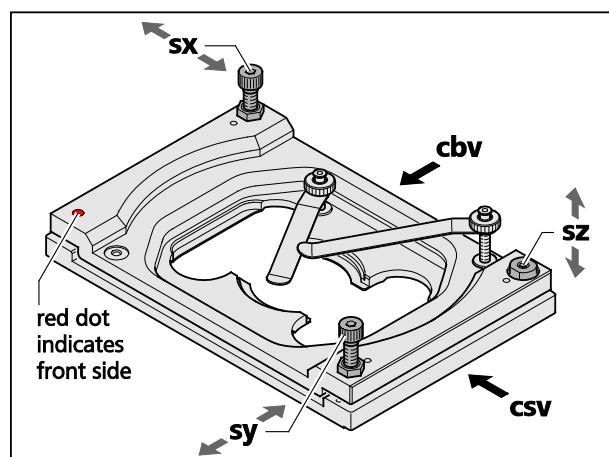
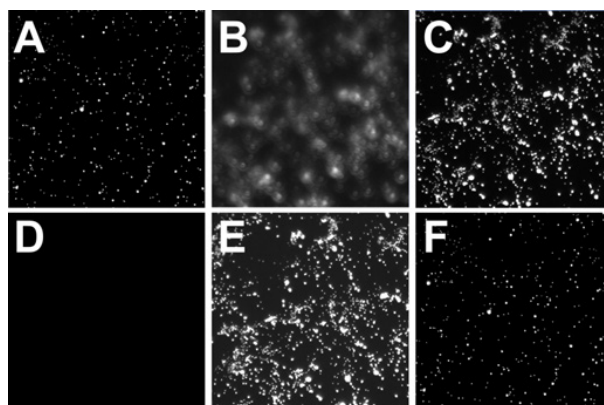

Fig. 5 Adjustable sample holder – schematic view
Fig. 6 Focus control in epi-fluorescence
1. Take a fluorescent sample like embedded beads and mount centrally over the objective. (Note: you can also use your own fluorescent sample). Use WF illumination with the X-Cite or laser light and focus manually onto the sample using the stand's focus drive (Fig. 6/A).
- b) If the sample is out of focus (Fig. 6/B) refocus manually by using the stand's focus drive (Fig. 6/C); otherwise no further leveling is necessary. Record the relative change in the focus position by reading the value in the **Z-Position** input box of the **Focus** tool. If the focus is off more than 10 μm it is recommended to do a pre-adjustment. To this end adjust the edges of the clefts viewed from the right side (Fig. 5/csv) and back side (Fig. 5/cbv) to be parallel using screws **sy** and **sx**, respectively (Fig. 5). The cleft's width should be approximately 2 mm as preset by the factory, but can be adjusted with screw **sz** if needed.
- c) Multiply that value with **55** and manually set the focus onto this value using the stand's focus drive (Fig. 6/D). (Note: The factor **55** is only accurate, if the sample was positioned in the center.)
- d) Use the back left screw (Fig. 5/sx) of the sample holder to readjust the focus (Fig. 6/E). Turn clockwise if the focus position was positive, counter clockwise if it was negative. (Note that one turn corresponds to approximately 125 μm).
- e) Press the lower pointing arrow of the **X** input box of the **Stage** tool to return to the initial position. If the image is in focus (Fig. 6/F) X leveling is complete; otherwise repeat steps 3a) - e) iteratively. If applicable, the multiplication factor of 3c) can be adjusted.
- Enter in the **Stage** tool in the **Step [μm]** input box "1000". Press the upper or lower pointing arrow of the **Y** input box, whatever is required to step 1000 μm upwards in the Y direction (Fig. 6/A).
- If the sample is out of focus (Fig. 6/B) refocus manually by using the stand's focus drive (Fig. 6/C); otherwise no further leveling is necessary. Record the relative change in the focus position by reading the value in the **Z-Position** input box of the Focus tool.
- Multiply that value with **40** and manually set the focus onto this value using the stand's focus drive (Fig. 6/D). (Note: The factor **40** is only accurate, if the sample was positioned in the center.)
- Use the front right screw (Fig. 5/sy) of the sample holder to readjust the focus (Fig. 6/E). Turn clockwise if the focus position was positive, counter clockwise if it was negative. (Note that one turn corresponds to approximately 125 μm).
- Press the lower pointing arrow of the **Y** input box of the **Stage** tool to return to the initial position. If the image is in focus (Fig. 6/F) Y leveling is complete; otherwise repeat steps 4a) - e) iteratively. If applicable, the multiplication factor of 4c) can be adjusted.